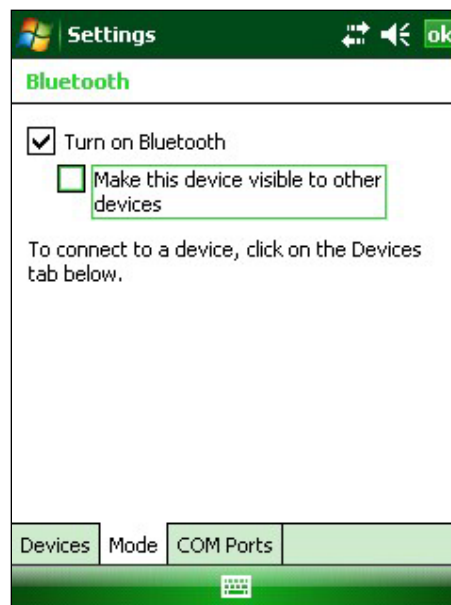

Figure 28 - Turn on Bluetooth
- 2) Once in the Bluetooth Settings Manager, click on the “Mode” tab and then make sure that the box next to “Turn on Bluetooth” is checked (Figure 28).